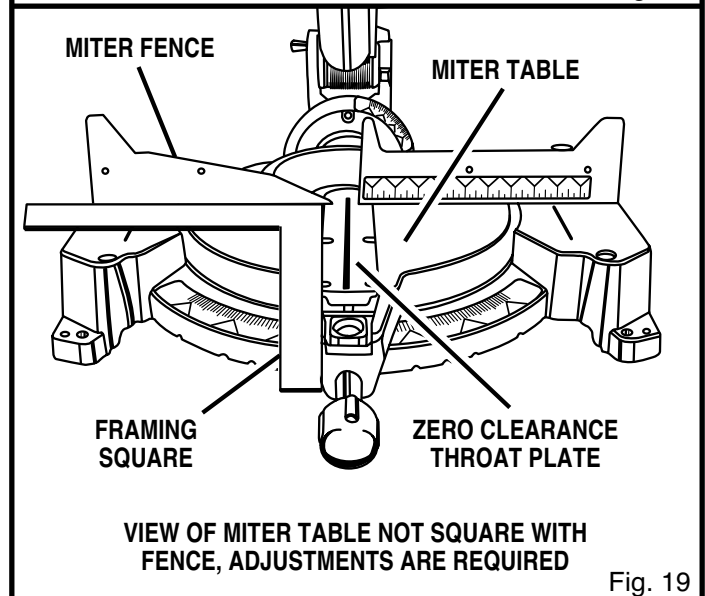

Fig. 19
- Lay a framing square flat on the miter table. Place one leg of the square against the fence. Place the other leg of the square beside the zero clearance throat plate in the miter table. The edge of the square and the zero clearance throat plate in the miter table should be parallel as shown in figure 19.